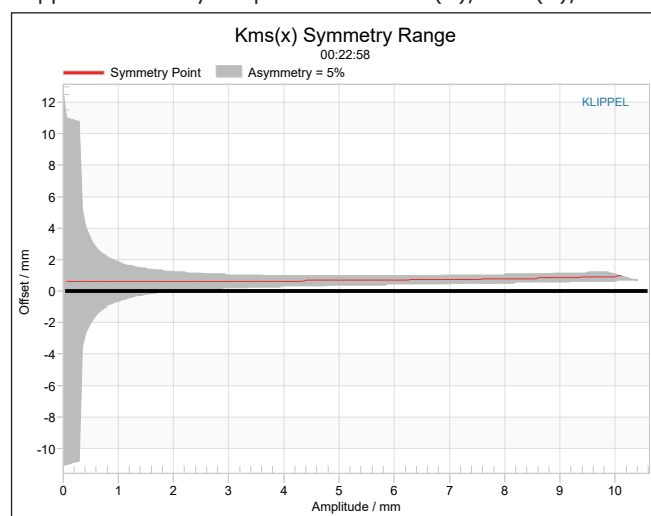
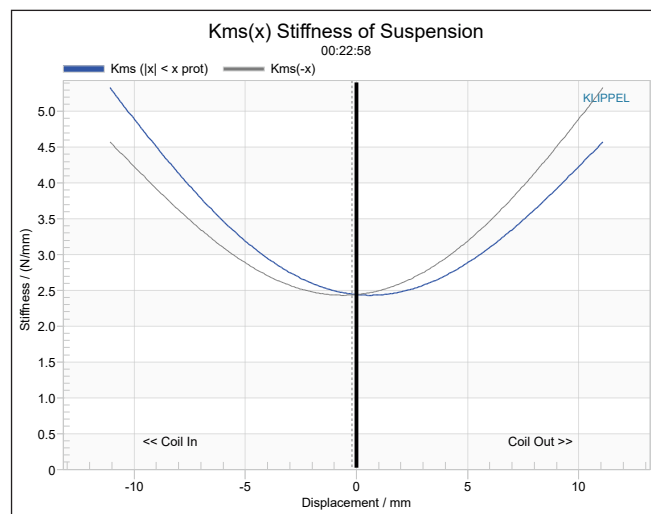

Figure 7: Klippel Analyzer Kms Symmetry Range curve for the Scan-Speak Ellipticor 38WE/8582T00 woofer
Figure 8: Klippel Analyzer Mechanical Stiffness of Suspension Kms(X) curve for the Scan-Speak Ellipticor 38WE/8582T00 woofer
Figure 7 and Figure 8 show the Kms(X) and Kms Symmetry Range curves for the Ellipticor driver, respectively. The Kms(X) curve is definitely symmetrical in both directions with a small degree of coil-out that is only 0.68mm at the 5mm excursion point and stays relatively constant out to the 10.25mm Xmax point and is still less than 1mm (0.95mm).